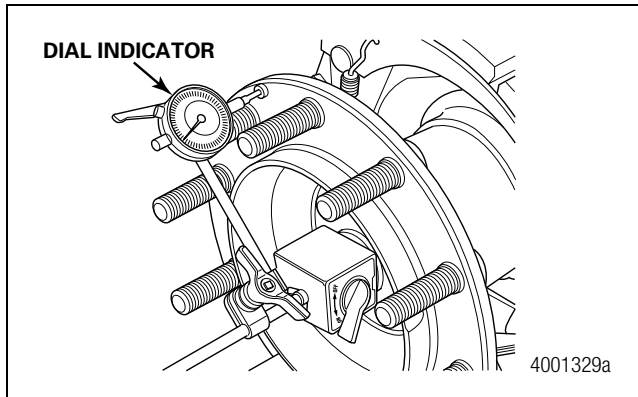

Figure 13.13
4. Remove the wheel and drum. Attach the magnetic base of a dial indicator to the end of the spindle. Figure 13.13. Touch the indicator stem perpendicular against the unitized wheel end's mounting face.